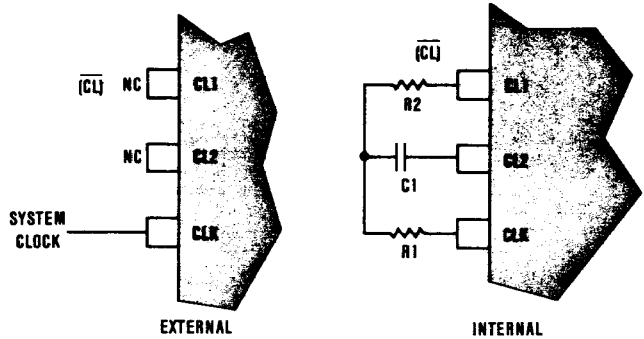

Figure 9. Clocking Configurations
- CLK** The clock input, CLK, is either driven by the system clock or connected to CL1 and CL2 through the RC network in Figure 9 for internal clocking (see Clocking Configurations section).
Both series 7555 and 7556 may be driven by the system clock or operated with an internally generated clock. The two alternatives are shown in Figure 9 below.